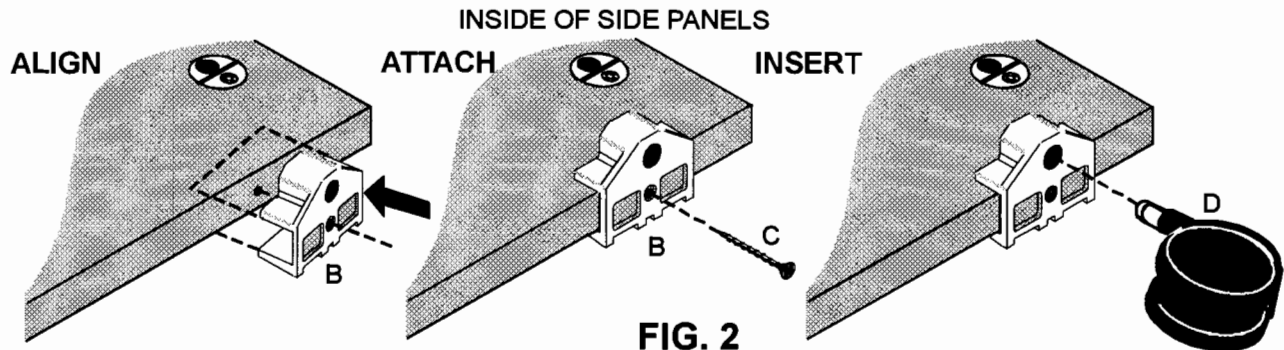

FIG. 2
Lay RIGHT and LEFT SIDES on a flat, non-scratch surface, assembly fittings facing up. ALIGN CASTER BRACKETS (B) with hole on bottom edge of panel. NOTE: Large hole on CASTER BRACKET must be to inside (fitting side) of panel. Start BRACKET onto board at one corner first. Push BRACKET all the way onto panel. ATTACH with CASTER SCREW (C) through mounting hole. INSERT CASTER stem into larger mounting hole in BRACKET and push until it "CLICKS" into place. (FIG. 2) - SEE BELOW FOR LARGER VIEW OF SIDE.